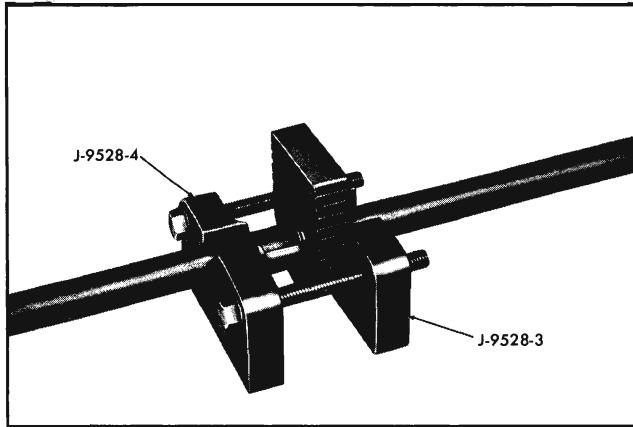

Fig. 4-18 Tools J-9528-3 and J-9528-4 Installed
1. Position tools J-9528-3 and J-9528-4 on propeller shaft (Fig. 4-18).